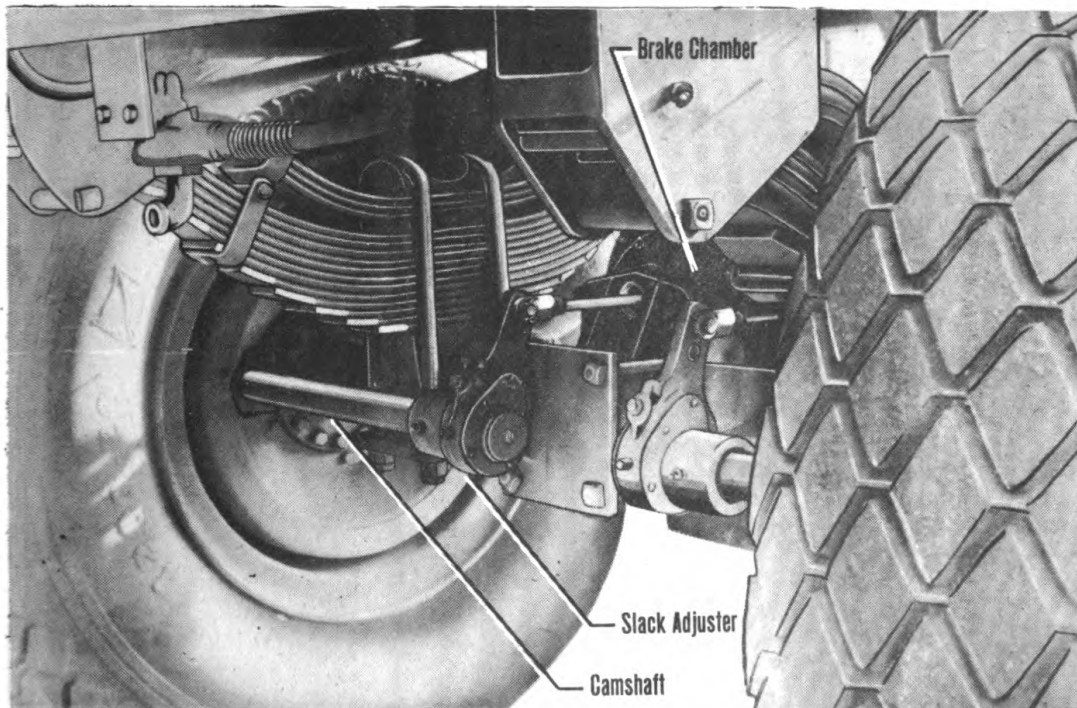
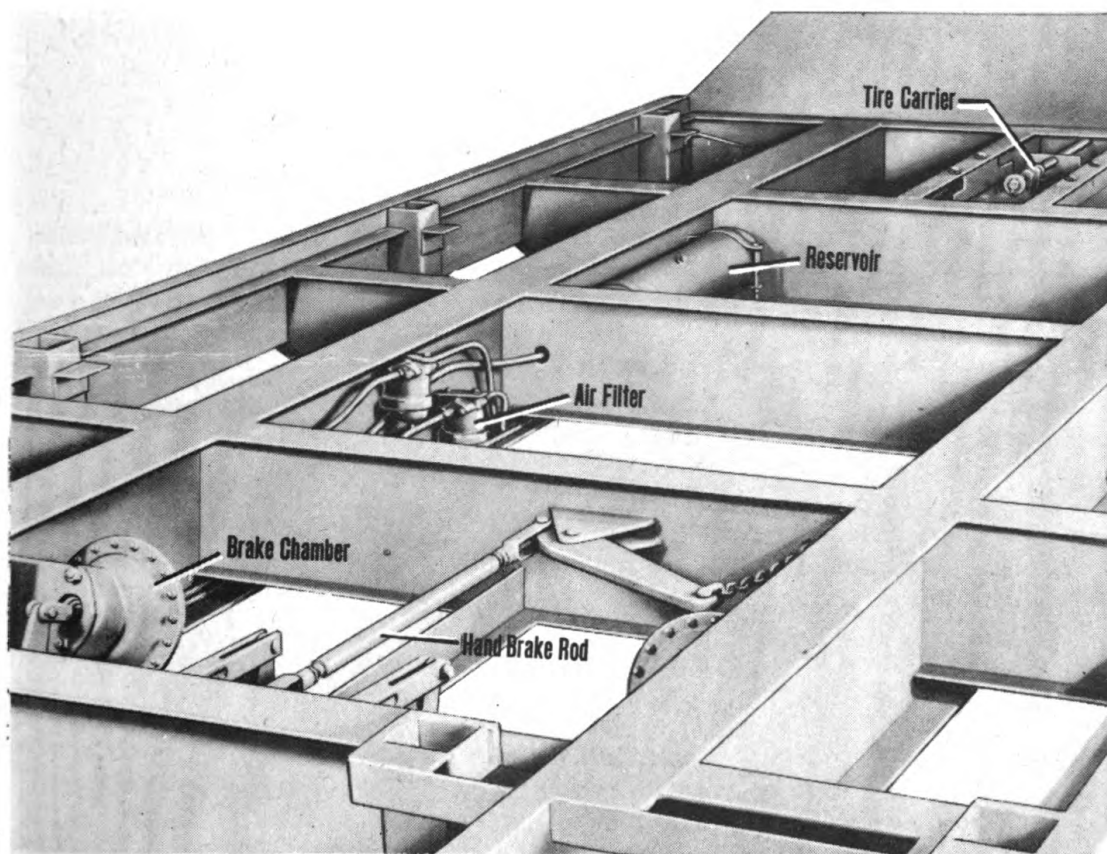

Figure 5—Rear Underconstruction of the Dolly
Figure 7—Looking Down on Full Bed of Trailer, with Platform Removed.
2. Brakes are provided with a slack adjuster on the camshaft (figures 5 and 6). The slack adjuster provides for 360-degree adjustment on the camshaft. Actuation of the front axle brakes is by air chambers mounted on the axle (figure 5), while the rear axle brakes are actuated by air chambers (figure 7) mounted in the trailer frame.
2. Brake chambers (figures 5 and 7) transform the energy of compressed air into the mechanical force and motion necessary to operate the brakes on each wheel.
3. Slack adjusters (figures 5 and 6), mounted on the brake camshafts, provide an easy means of adjusting the brakes to compensate for brake lining wear.
4. A reservoir (figure 7) is used to store the compressed air for brake operation.
7. Air filters (figure 7) are connected in the service line and in the emergency line leading from the air brake system on the towing vehicle.
The tire carrier (figure 7) is of the cable type. The tire is pulled up to the frame, where it is fixed into position by means of studs and stud nuts.